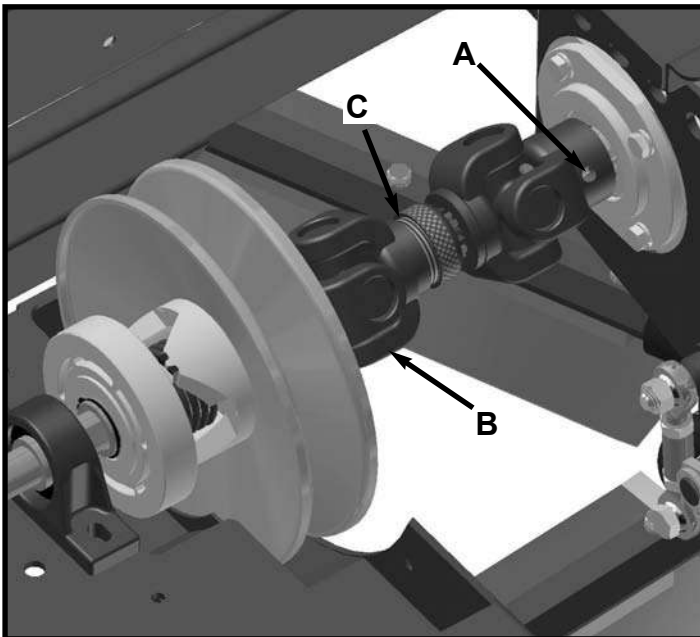

Figure 2A
3. Loosen set screws(A) on both the u-joints where they couple to the drive shaft. (refer to fig. 2A)